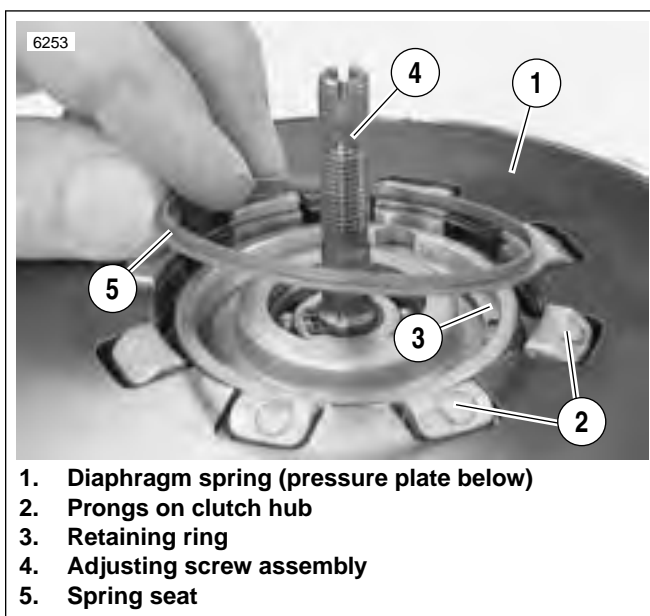

Figure 6-19. Spring Seat Installation
- See Figure 6-19. Align square openings of pressure plate and diaphragm spring so that the assembly can be installed over prongs of clutch hub.
- See Figure 6-19. Position diaphragm spring with its concave side facing toward pressure plate onto pressure plate assembly.